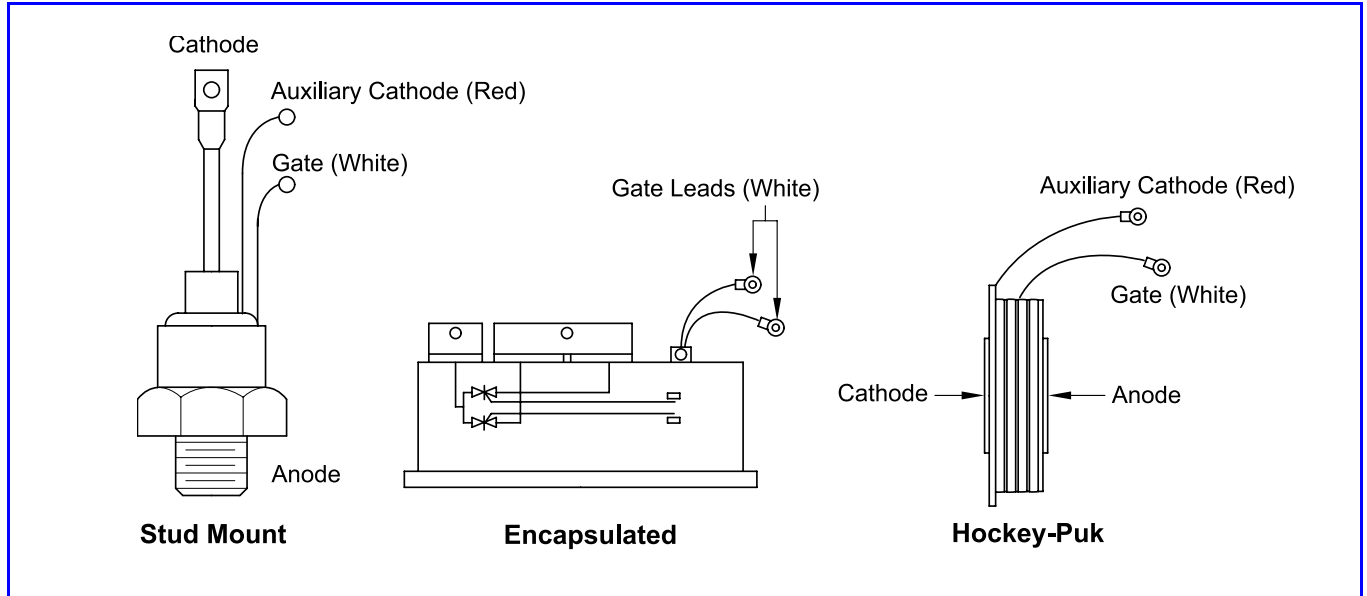

Figure 35 SCR Terminal Identification
3. Identify SCR terminals. See **Figure 35**.